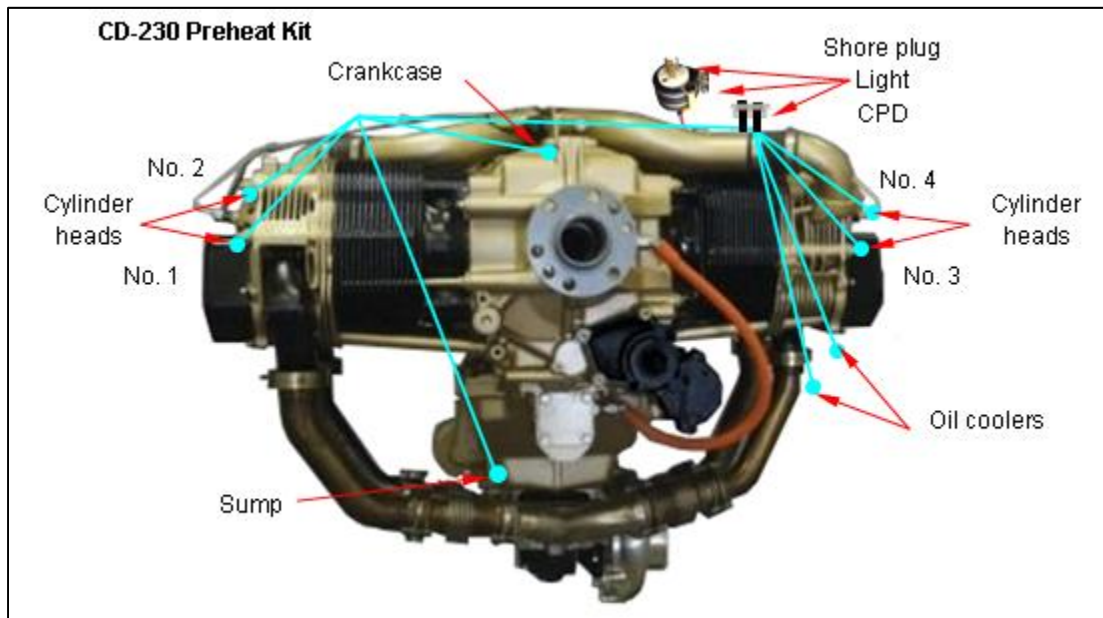

Figure 1 – CD-230 series preheat kit layout
1. Shore power plug (Figures 1, 2, 3, 10, and 11):
6. Leads (Figures 1 through 12):